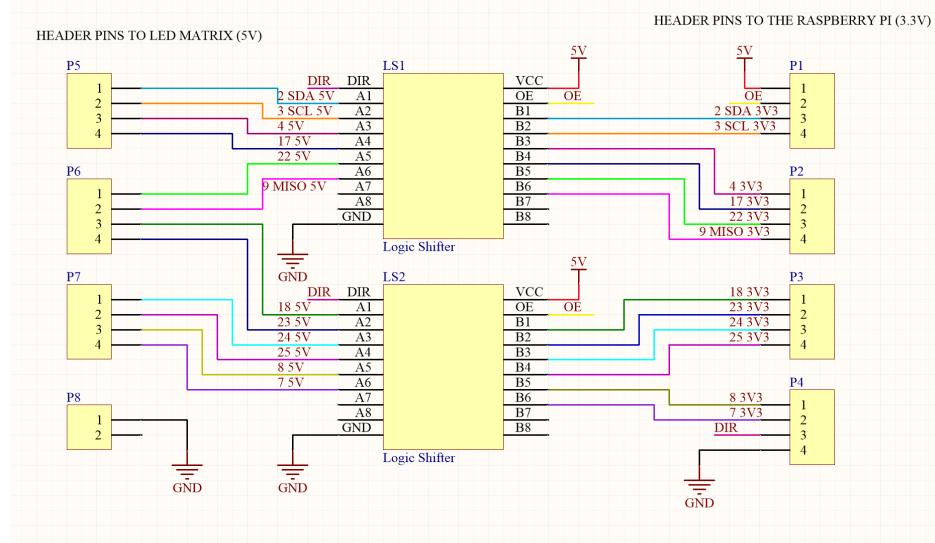
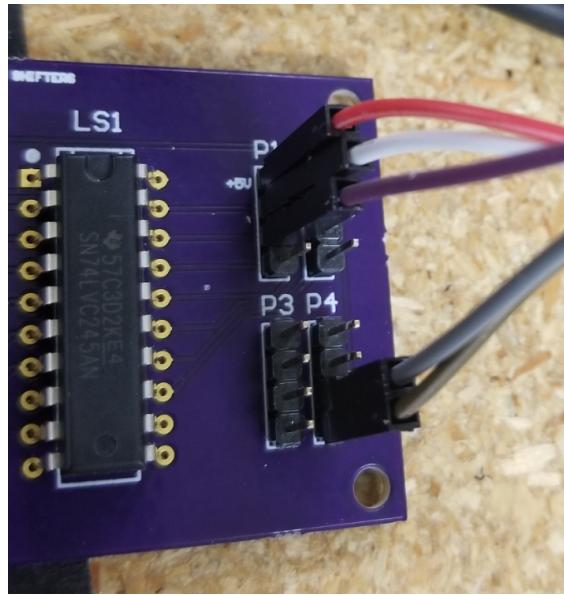

Figure 8: Logic Shifter schematic
Figure 11: Board Connections
In Figure 8 the wire labels correspond to the name of the GPIO pin the signal comes from on the raspberry pi. All **pin numbers that lead to the Raspberry Pi** represent **GPIO pin numbers, NOT physical pin numbers**. For instance, for header P2, pin 1 is labelled with "4 3V3". This should be connected to **GPIO pin 4** on the **Raspberry Pi (physical pin 7)**. The data sheet for the logic shifter IC chip can be found at:
2. Now, you will need to run connections to the board from the Raspberry Pi. Figure 8 shows which pins on the board are connected to which pin on the Raspberry Pi, with the exception of the purple wire, which will be using to test the signals and drive it from the 3.3V DC power pin on the Raspberry Pi. Figure 11 shows which of these we will need to start connecting the board to test.
6. Repeat this process for the rest of the pins, following along with the circuit diagram in Figure 8, making sure each channel of the shifter is working correctly.